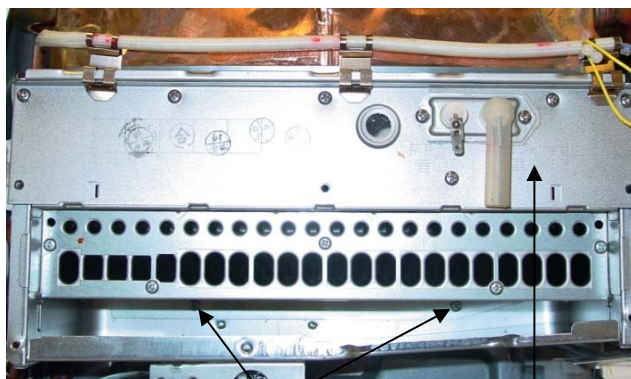

Figure 3 Screws attaching burner Burner cover plate
11. Remove the clips and screws (5 for the V53e and R/C42; 6 for the R/C53 and R63LSe) attaching the burner cover plate to the combustion chamber. (Figure 3)
12. Remove the 2 screws attaching the burner to the heat exchanger. Pull out the burner. (Figure 3)
26. Insert the burner and place the burner cover plate into position. Attach the burner cover plate first with screws (5 for the V53e and R/C42; 6 for the R/C53 and R63LSe) and then attach the burner with 2 screws. (Figure 3)